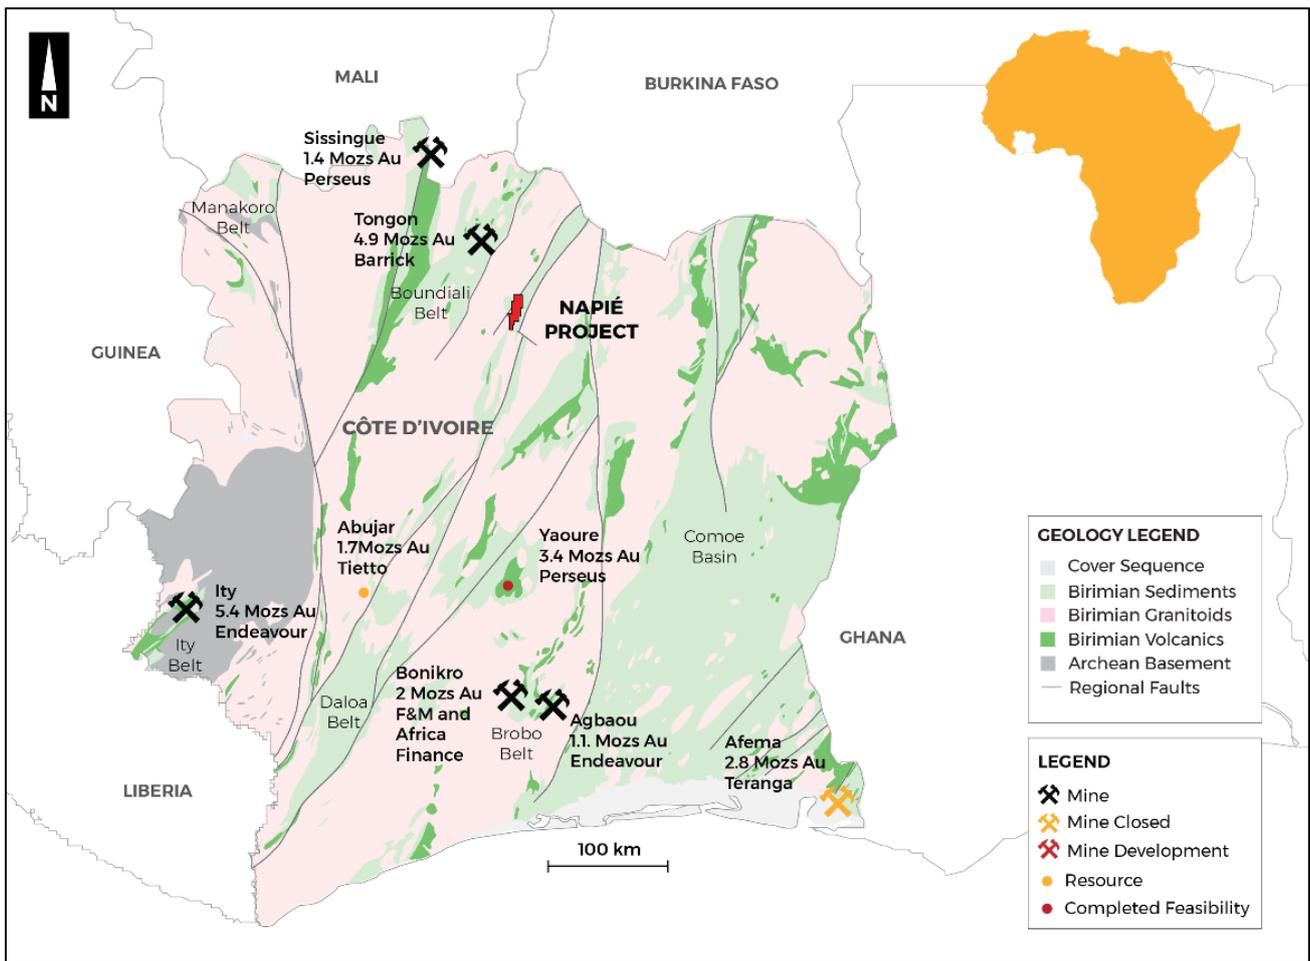

Figure 1: Mako's Napié Project – Côte d'Ivoire
Mako Gold Limited (“Mako” or “the Company”) is pleased to report on assay results received from the first sixteen holes of the Company’s recent twenty-seven hole (4,141m) reverse circulation (RC) drill program at the Napié Project in Côte d’Ivoire (Figure 1). Mako is earning up to a 75% interest in the Napié Project under a farm-in and joint venture agreement with Occidental Gold SARL, a subsidiary of West African gold miner Perseus Mining Limited (ASX/TSX:PRU1). Mako currently holds 51% interest in the permit and is operator of the project2.